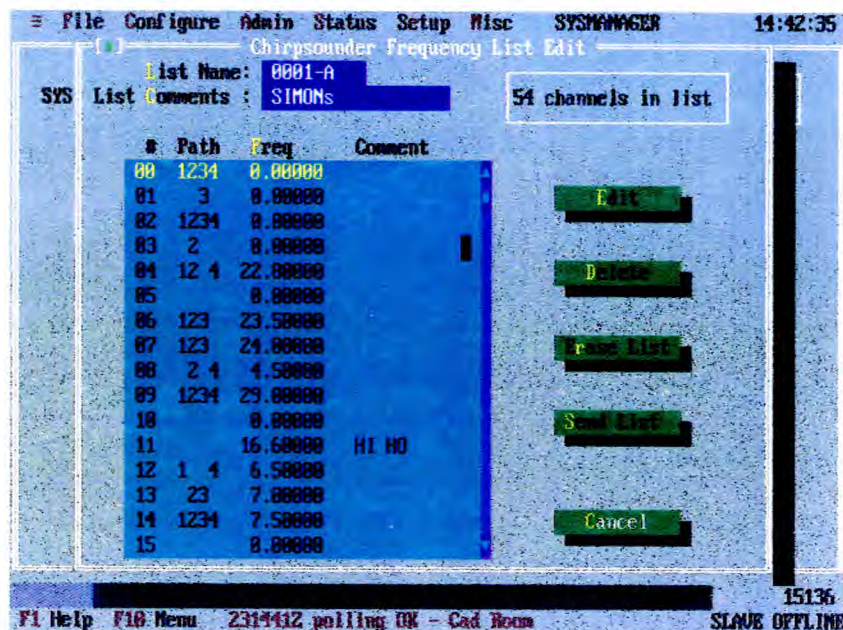

Fig 35
9 The screen shown in Fig 35, "Chirpsounder Frequency List Edit" is obtained for the selected RCS-5B. The list may be viewed, edited or erased entirely from this screen.
9.7.4 Select OK to save the edited data and exit to screen Fig 35. Selection of CANCEL aborts the editing attempt.